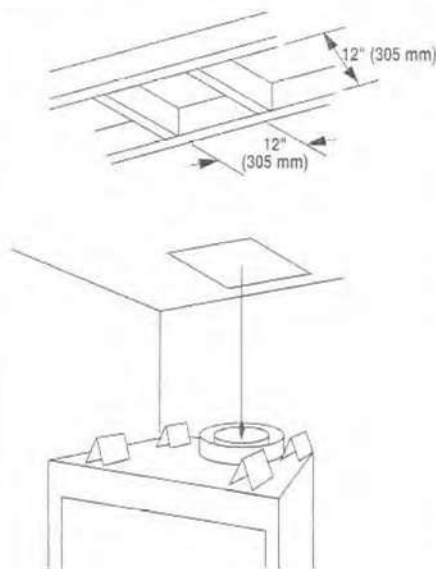

Figure 15
A. Use a plumb line from the ceiling above the appliance to locate center of the vertical run. Cut and/or frame a 12" x 12" inside (305 mm x 305 mm) opening about this center mark (*Figure 15*).
C. If the vertical route is to penetrate a ceiling, use plumb line to locate the center above the appliance. Cut and/or frame a 12" x 12" (305 mm x 305 mm) inside opening about the center. (Reference Figure 15).